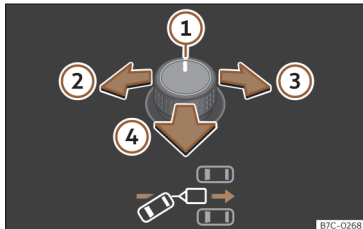
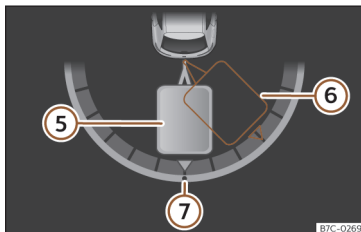

Fig. 184 Rotary exterior mirror controls.: adjust the trailer angle.
Fig. 185 Instrument panel display: engage reverse gear
Key of the **Fig. 184**, **»» Fig. 185**:
• Tilt the rotary control until the desired direction is reached **»» Fig. 184**. A representation of the tow vehicle and trailer set is shown on the instrument cluster screen for guidance purposes **»» Fig. 185**.